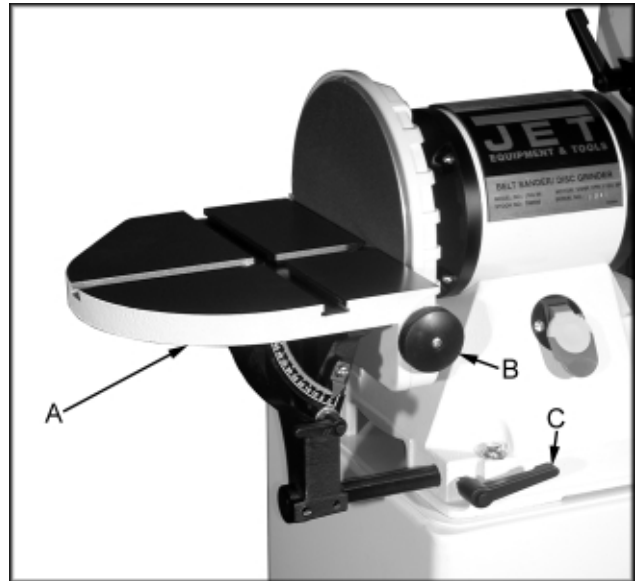

Fig. 14
2. Loosen the handle (C, Fig. 14) and remove the table assembly (A, Fig. 14).
3. Turn the knob (B, Fig. 14) and open the door.